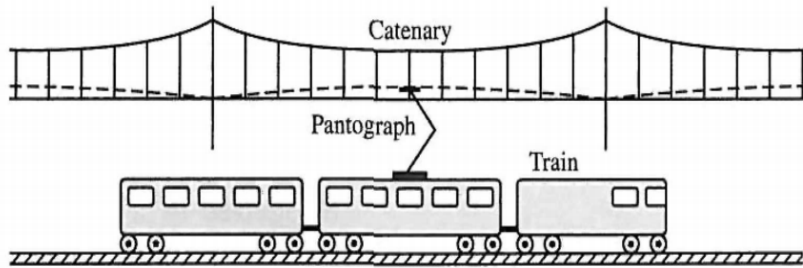

Figure 1: High-speed rail system showing pantograph and catenary
4. Some high-speed rail systems are powered by electricity supplied through a pantograph on the train's roof from a catenary overhead, as shown in Figure 1. The force applied by the pantograph to the catenary is regulated to avoid loss of contact due to excessive transient motion. A proposed method to regulate the force uses a closed-loop feedback system, whereby a force, F_{up} , is applied to the bottom of the pantograph, resulting in an output force applied at the catenary at the top. The contact between the head of the pantograph and the catenary is represented by a spring. The output force is proportional to the displacement of this spring, which is the difference between the catenary and pantograph head vertical positions. Draw a functional block diagram showing the following signals: the desired output force as the input; the force, F_{up} , applied to the bottom of the pantograph; the difference in displacement between the catenary and pantograph head; and the output contact force. Also, show blocks representing the input transducer, controller, actuator generating F_{up} , pantograph dynamics, spring described above, and output sensor. All forces and displacements are measured from equilibrium.